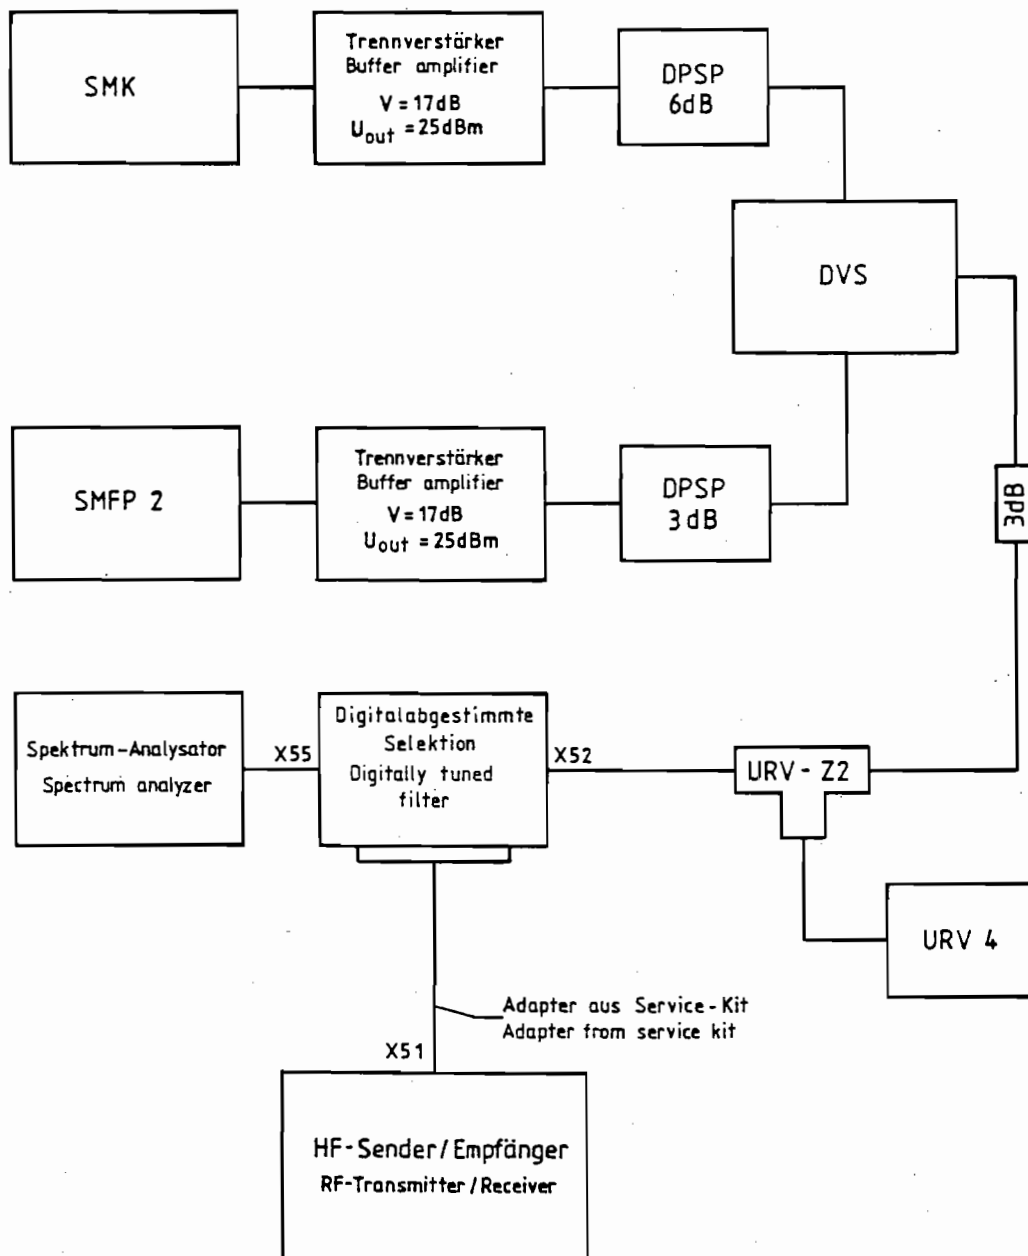

Fig. 6.3 Test Set-up for Measuring Intermodulation
1. Arrange a test set-up acc. to Fig. 6.3.